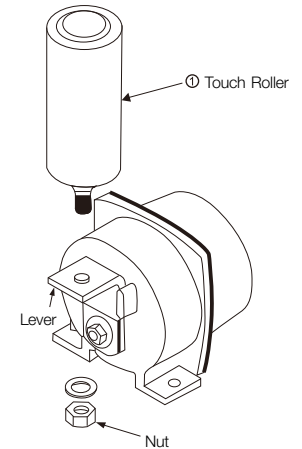

Fig.6 Replacement of Touch Roller
3. Replacement of Touch Roller (Refer to Fig.6)